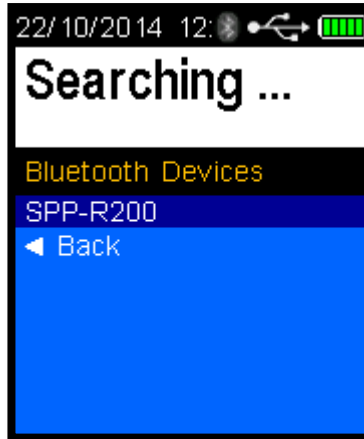

Figure 85 Printer Identified
- When the LE5 identifies the printer, the printer type will be displayed, e.g., "SPP-R200' (Refer Figure 85).